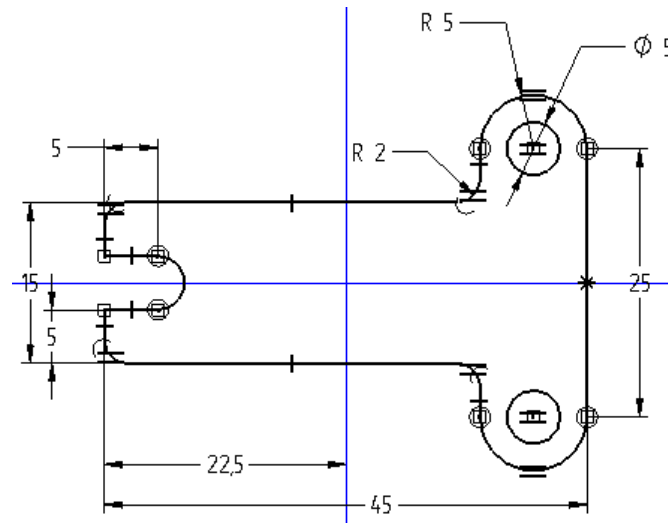

Figure 5-69 Dimensioned profile for the base feature
- Add the required relationships and dimensions to the sketch, as shown in Figure 5-69.